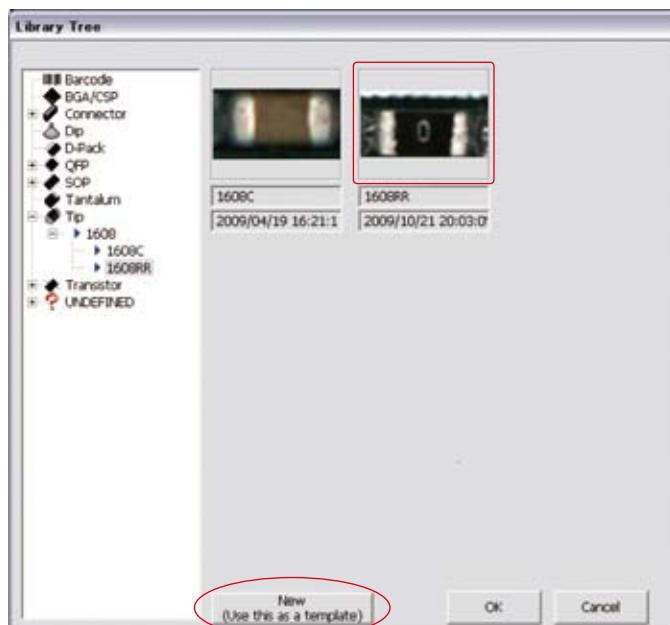

Figure 1-18 Assign Library
Step32: The window shown in Figure 1-18 appears. Select an appropriate library for the component.